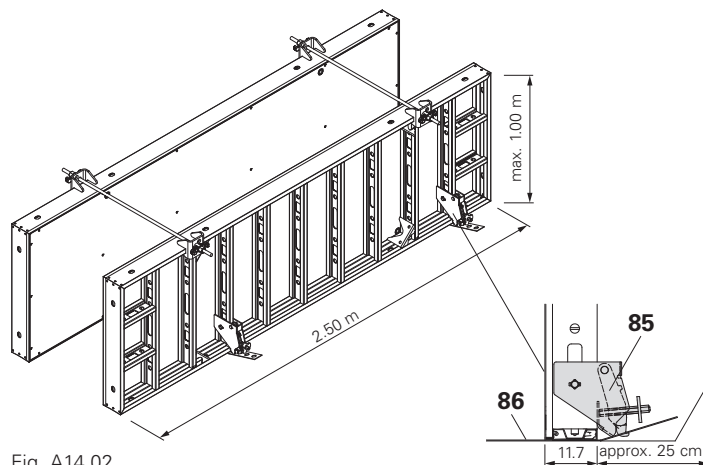

Fig. A14.02
1. Position the panel on the Perforated Foundation Tie (86).
2. Fix the Foundation Tie Spanner (85) in the lowest connecting hole by means of bolts (85.1).
4. Tension using Ratchet, SW 14. (Fig. A14.02)